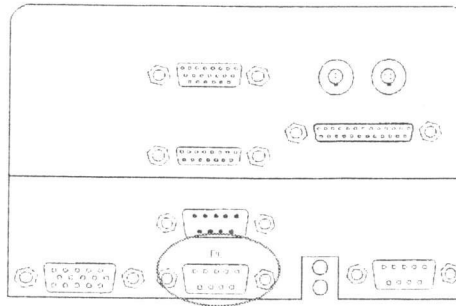

Figure 8 Connecting the PC to the spectrometer
- Connect all electrical supplies from the computer and monitor and connect the PC COM port (usually marked **10101**) to the connector on the right hand side of the spectrometer as shown in Figure 8.